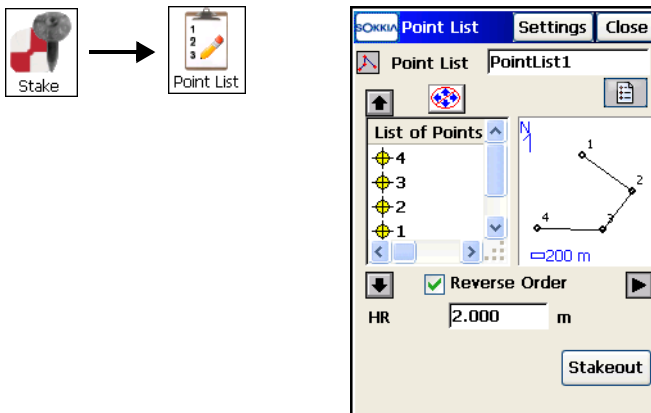

Figure 9-14. Stakeout Point List
1. To stake out points in a point list, tap **Stake ▶ Point List** (Figure 9-14 on page 9-11).
2. In the Stakeout **Point List** screen, select a pre-existing points list, set the antenna parameters (GPS mode): height of the antenna reference point (ARP) above the mark and the type, or the height of the rod (target) (TS mode). To perform a stakeout, starting from the end of the Point List, check and enable the *Reverse Order* box. Use the arrow buttons to modify stakeout order. Then tap the **Stakeout** button (Figure 9-14 on page 9-11).